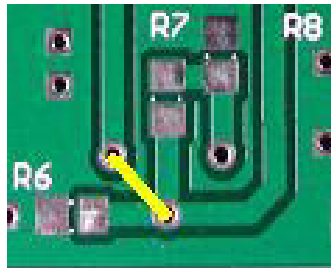

Fig 5 – Bridging out the Variable Attenuator stage
- If the variable attenuator option is not required, then bridge the slider of P1 to the track to R9 as indicated in Fig 5